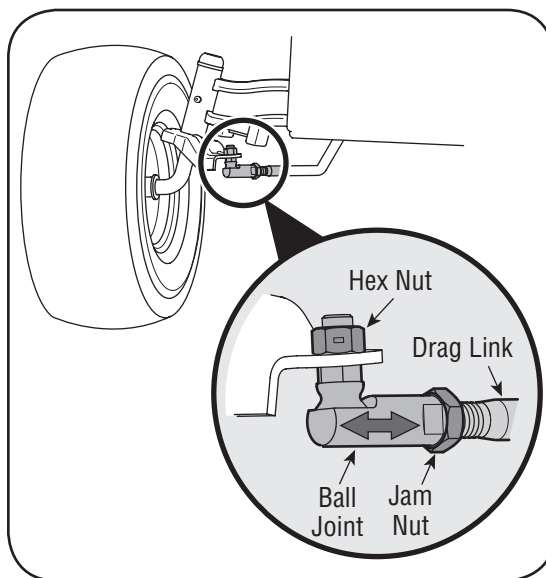

Figure 5-3
1. Loosen the jam nut found on the drag link at the rear of the ball joint. See Fig. 5-3.
2. Remove hex nut on the top of ball joint. See Fig. 5-3.